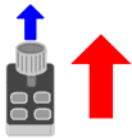

Figure 23 - Up
- The Y+ Axis Orientation, illustrated by figures 23 to 26.